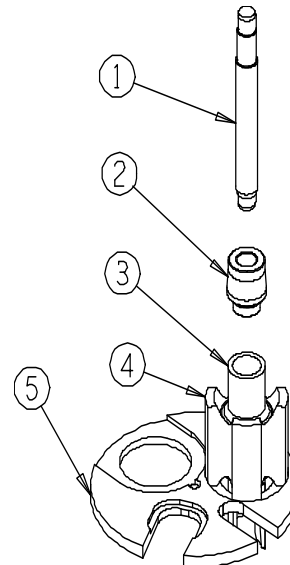

Figure 11-18b HH108 Valve Guide Disassembly
6. **(HH108)** Refer to Figure 11-18b. Place the Valve Guide on the Press Plate with the finger notch end down.
7. **(HH 46, HH57, HH68, HH108)** Use the Valve Guide Pusher (2) and Punch (1) to press the Valve Guide through the Shock Absorber.